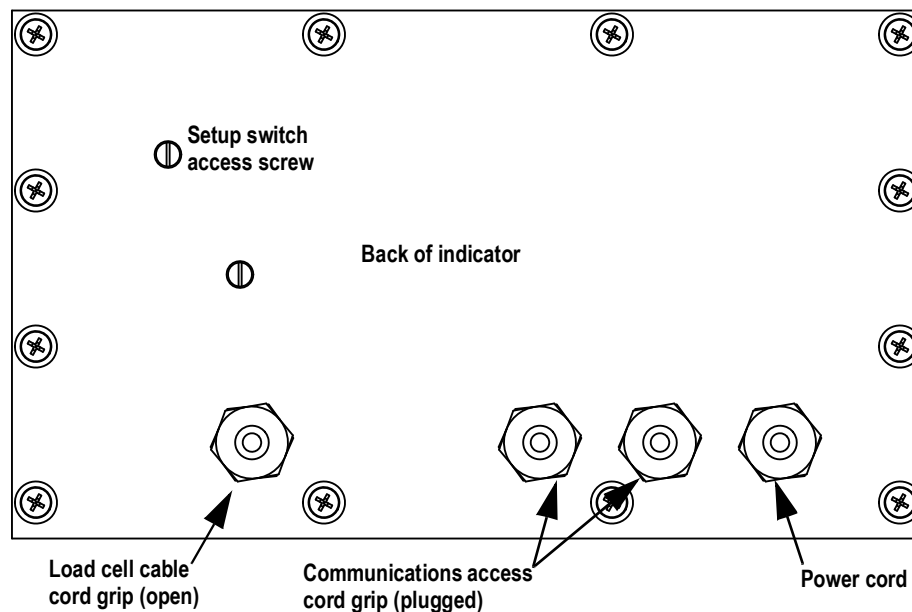

Figure 2-1. Recommended Cord Grip Assignments
1. Remove the setup switch access screw from the back of the enclosure, See Figure 2-1 on page 11.
The 480 provides four cord grips for cabling into the indicator: one for the power cord, three to accommodate load cell, communications, digital inputs and outputs, and analog output cables. Two of the three free cord grips come with a plug installed to prevent moisture from entering the enclosure. Depending on the application, remove the plug from another cord grip that will be used and install cables as required, See Figure 2-1 for the recommended assignments for the 480 cord grips.